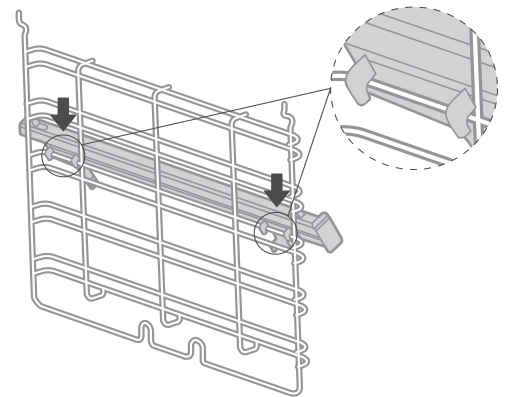

Figure 2
1. Place the buckles on both sides of the telescopic guide on the side rack. (Figure 2)